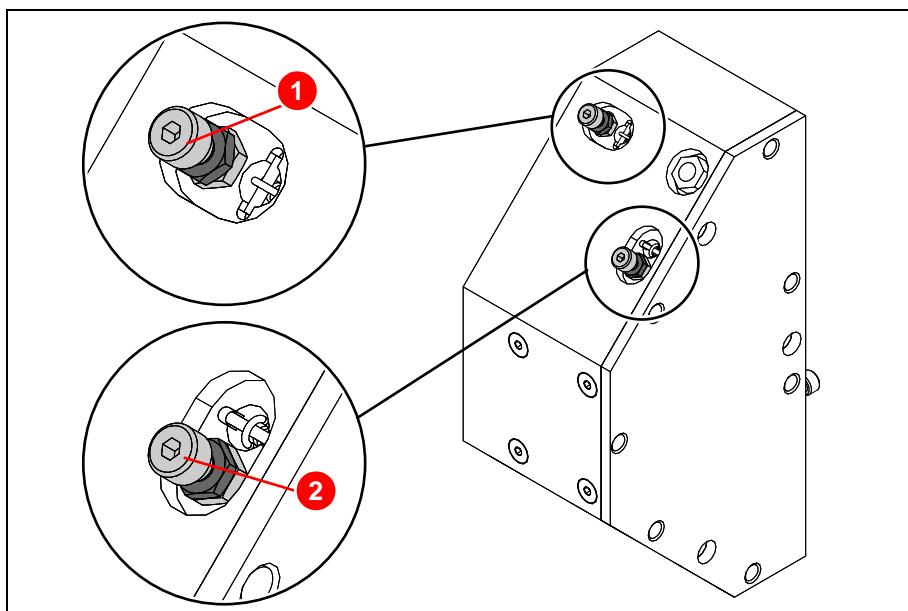

Figure 6.46 Beam adjustment of the upper deflecting mirror
- Horizontal adjustment (1) (Figure 6.46)
- Vertical adjustment (2) ()